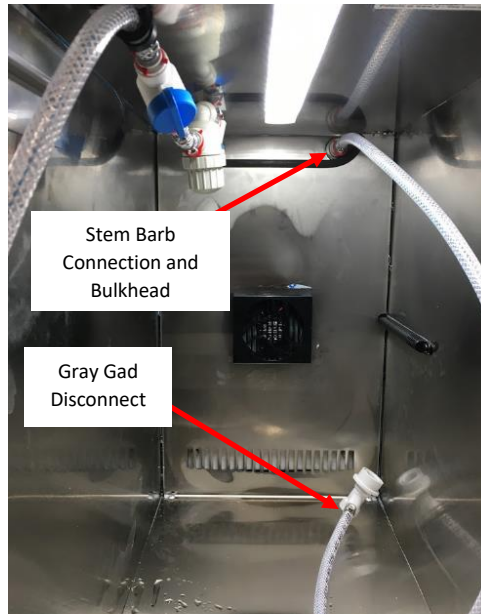

Figure 47: Gas connections inside Fridge.
- a. Verify if it is the Gray Gas Disconnect fitting that is not the cause by spraying it with soap solution and looking for bubbles. **See Figure 47.**
- b. Also check both barb connections at the Gray Gas Disconnect Fitting, at the Stem Barb connection at the rear top area of the Fridge, and the push to connect bulkhead by spraying it with soap solution and looking for bubbles. **See Figure 47.**